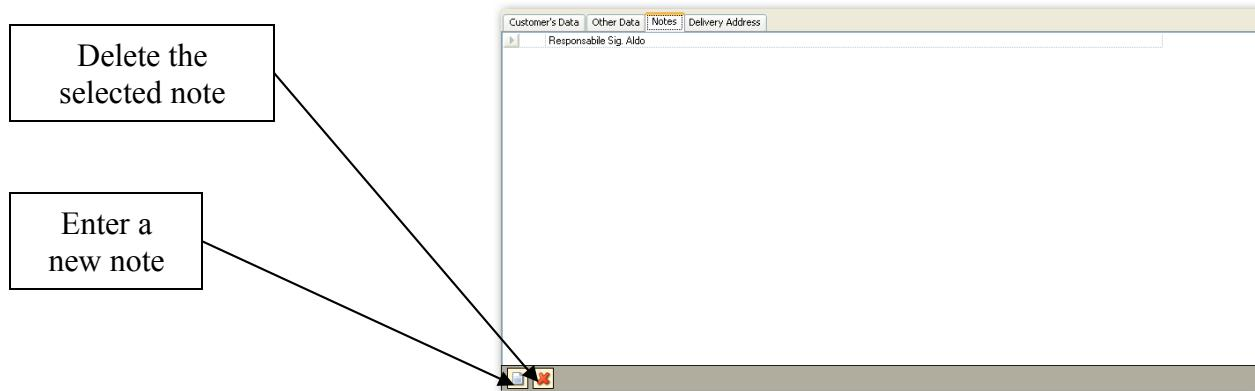

Fig. 24 - Customer notes
3. Enter customer "Notes": in order to enter the "Notes", all "Personal data" mandatory fields must be set up. Then, click on the bottom-left button in the appropriate window (Fig. 24). Notes are not mandatory, but are used to add further information to the customer tabs.